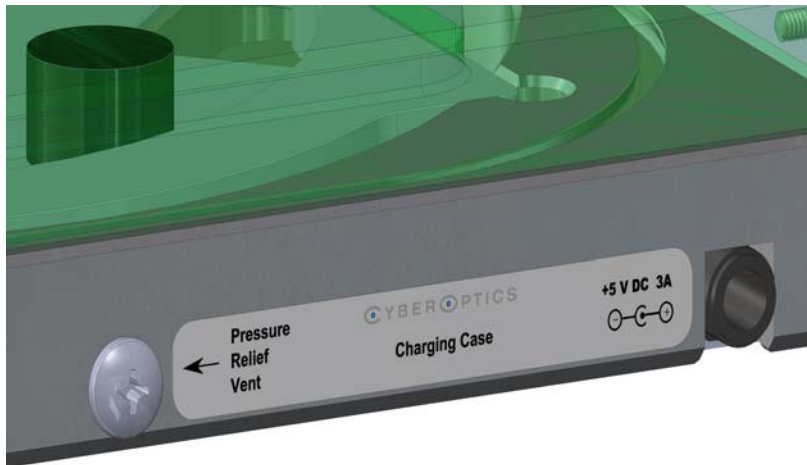

Figure 3.25: Contact Case Connection and Pressure Relief Vent
4. Plug the charger line adapter into a 100 VAC to 240 VAC mains and plug the other end into the charging case connection on the right side of the charging case. (See figure 3.25)